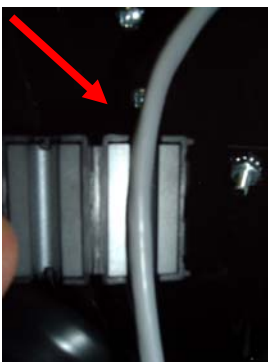
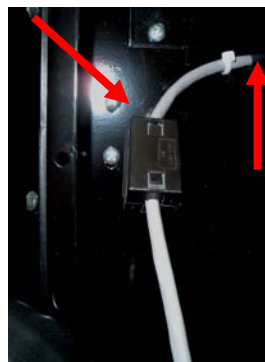

Figure 1
Figure 2 (Without Bill Validator installed)
7. Open the latch on the side of the Ferrite (See Figure 1). Place the Display Harness in the groove of the Ferrite approximately 4" from the Display Connection (See Figure 2).
9. Figures 2 and 3 show the final Ferrite placement with and without a Bill Validator installed.